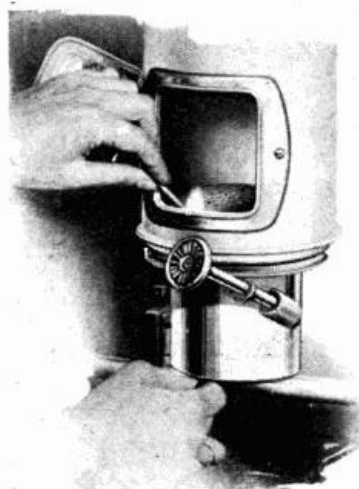
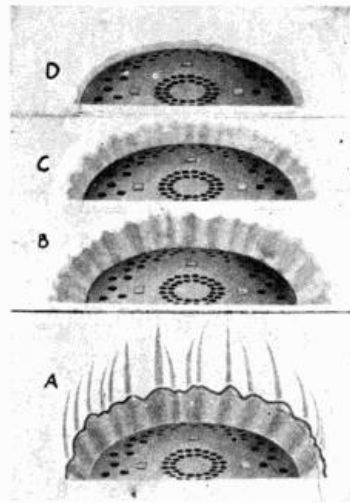

FIG. 14. Lighting oil stove.
FIG. 15. Different types of flames.
26. Lighting the Stove. When lighting a stove, turn the valve which permits the oil to flow (*C*, Fig. 11) into the cup below the burner, or lower the lighter into the oil. Wait a moment, if need be, for the wick or ring to become saturated with oil. Raise the chimney and touch the lighted match to the ring or wick at several places. (Fig. 14, and Fig. 11, also, show the position of the chimney and wick for lighting.) Lower the chimney, seeing that it fits back into place. Adjust the wick to the proper height to get a blue flame (Fig. 15). Do not turn very high at first, for, while the stove is becoming heated, the flame burns higher and higher, and may begin to smoke.